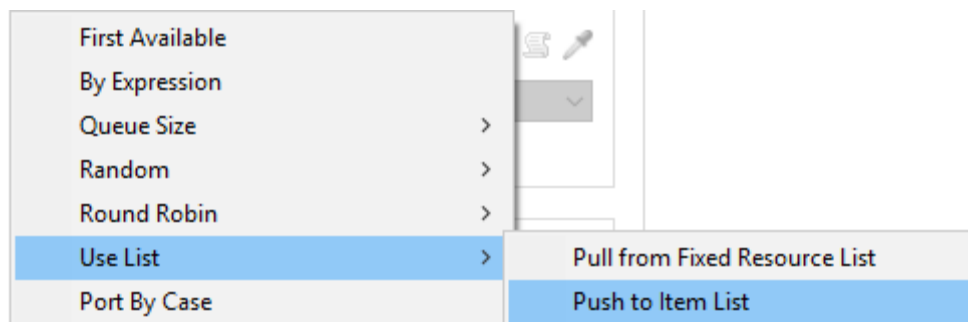

Figura 6- Push to itemlist
2) Queue 1 : Nas propriedades da fila, na aba flow, Send to port > Use list> Push to Itemlist (Figura 6)